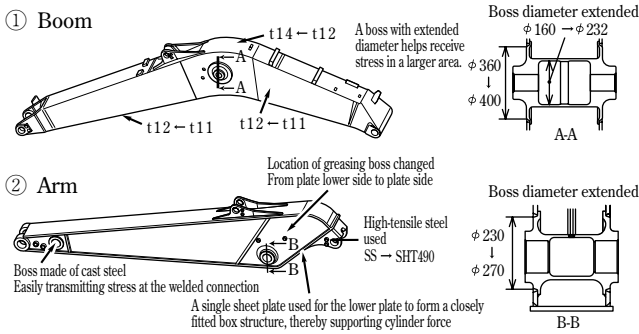

Fig. 7 Strengthened Work Equipment
(5) To ensure the machine's reliability commensurate with the increased working efficiency, the strength of the work equipment had to be increased. Regarding the improvement of the boom, a cast iron-made boss on the top of the boom cylinder has been upsized to enable it to receive stress in a wider area, since stress concentrates on that portion of the boom cylinder. At the same time, thickness of the cylinder wall was increased to boost its section rigidity. (See Fig. 7)